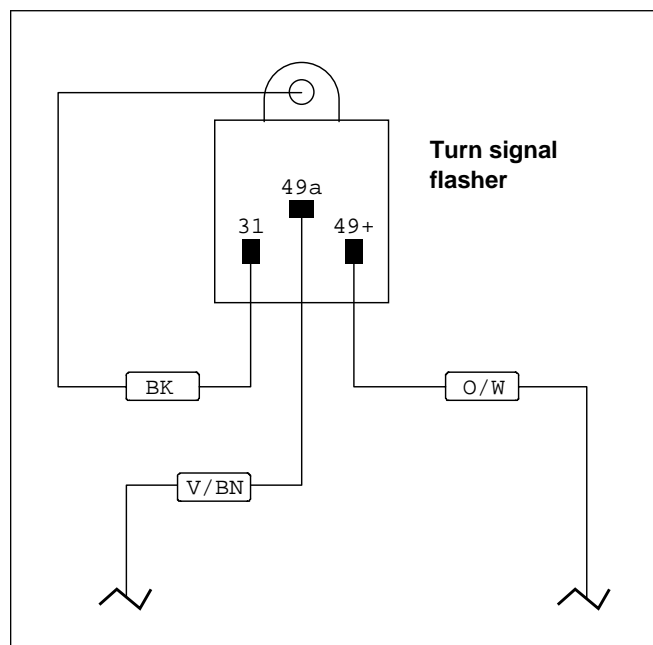

Figure 1. Turn Signal Wires
- See Figure 1. Attach wiring to **new** turn signal flasher. Terminal numbers are marked on bottom of flasher.